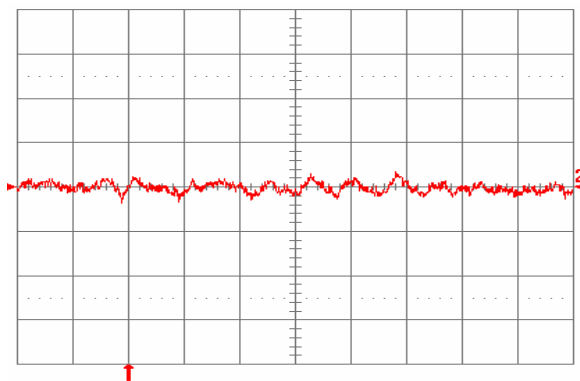

**Fig. 3.3V.14:** Test Setup for measuring input reflected ripple currents,  $i_c$  and  $i_s$ .
**Fig. 3.3V.1:** Available load current vs. ambient air temperature and airflow rates for SQ48T15033 converter with D height pins mounted vertically with  $V_{in} = 48\text{ V}$ , air flowing from pin 3 to pin 1, and maximum FET temperature  $\leq 120^\circ\text{C}$ .
**Fig. 3.3V.2:** Available load current vs. ambient air temperature and airflow rates for SQ48T15033 converter with D height pins mounted horizontally with  $V_{in} = 48\text{ V}$ , air flowing from pin 3 to pin 1, and maximum FET temperature  $\leq 120^\circ\text{C}$ .
**Fig. 3.3V.3:** Available load current vs. ambient air temperature and airflow rates for SQ48S15033 converter mounted vertically with  $V_{in} = 48$  V, air flowing from pin 3 to pin 1, and maximum FET temperature  $\leq 120$  °C.
**Fig. 3.3V.4:** Available load current vs. ambient air temperature and airflow rates for SQ48S15033 converter mounted horizontally with  $V_{in} = 48$  V, air flowing from pin 3 to pin 1, and maximum FET temperature  $\leq 120$  °C.
**Fig. 3.3V.5:** Efficiency vs. load current and input voltage for SQ48T/S15033 converter mounted vertically with air flowing from pin 3 to pin 1 at a rate of 300 LFM (1.5 m/s) and  $T_a = 25$  °C.
**Fig. 3.3V.6:** Efficiency vs. load current and ambient temperature for SQ48T/S15033 converter mounted vertically with  $V_{in} = 48$  V and air flowing from pin 3 to pin 1 at a rate of 200 LFM (1.0 m/s).
**Fig. 3.3V.7:** Power dissipation vs. load current and input voltage for SQ48T/S15033 converter mounted vertically with air flowing from pin 3 to pin 1 at a rate of 300 LFM (1.5 m/s) and  $T_a = 25^\circ\text{C}$ .
**Fig. 3.3V.8:** Power dissipation vs. load current and ambient temperature for SQ48T/S15033 converter mounted vertically with  $V_{in} = 48\text{ V}$  and air flowing from pin 3 to pin 1 at a rate of 200 LFM (1.0 m/s).
**Fig. 3.3V.9:** Turn-on transient at full rated load current (resistive) with no output capacitor at  $V_{in} = 48\text{ V}$ , triggered via ON/OFF pin. Top trace: ON/OFF signal (5 V/div.). Bottom trace: output voltage (1 V/div.). Time scale: 2 ms/div.
**Fig. 3.3V.10:** Turn-on transient at full rated load current (resistive) plus 10,000  $\mu\text{F}$  at  $V_{in} = 48\text{ V}$ , triggered via ON/OFF pin. Top trace: ON/OFF signal (5 V/div.). Bottom trace: output voltage (1 V/div.). Time scale: 2 ms/div.
**Fig. 3.3V.11:** Output voltage response to load current step-change (3.75 A – 7.5 A – 3.75 A) at  $V_{in} = 48$  V. Top trace: output voltage (100 mV/div.). Bottom trace: load current (5 A/div.). Current slew rate: 0.1 A/ $\mu$ s.  $C_o = 1$   $\mu$ F ceramic. Time scale: 0.2 ms/div.
**Fig. 3.3V.12:** Output voltage response to load current step-change (3.75 A – 7.5 A – 3.75 A) at  $V_{in} = 48$  V. Top trace: output voltage (100 mV/div.). Bottom trace: load current (5 A/div.). Current slew rate: 5 A/ $\mu$ s.  $C_o = 450$   $\mu$ F tantalum + 1  $\mu$ F ceramic. Time scale: 0.2 ms/div.
**Fig. 3.3V.13:** Output voltage ripple (20 mV/div.) at full rated load current into a resistive load with  $C_o = 10$   $\mu$ F tantalum + 1  $\mu$ F ceramic and  $V_{in} = 48$  V. Time scale: 1  $\mu$ s/div.
**Fig. 3.3V.15:** Input reflected ripple current,  $i_c$  (100 mA/div.), measured at input terminals at full rated load current and  $V_{in} = 48$  V. Refer to Fig. 3.3V.14 for test setup. Time scale: 1  $\mu$ s/div.
**Fig. 3.3V.16:** Input reflected ripple current,  $i_s$  (10 mA/div.), measured through 10  $\mu$ H at the source at full rated load current and  $V_{in} = 48$  V. Refer to Fig. 3.3V.14 for test setup. Time scale: 1  $\mu$ s/div.
**Fig. 3.3V.17:** Output voltage vs. load current showing current limit point and converter shutdown point. Input voltage has almost no effect on current limit characteristic.
**Fig. 3.3V.18:** Load current (top trace, 20 A/div., 20 ms/div.) into a 10 m $\Omega$  short circuit during restart, at  $V_{in} = 48$  V. Bottom trace (20 A/div., 1 ms/div.) is an expansion of the on-time portion of the top trace.